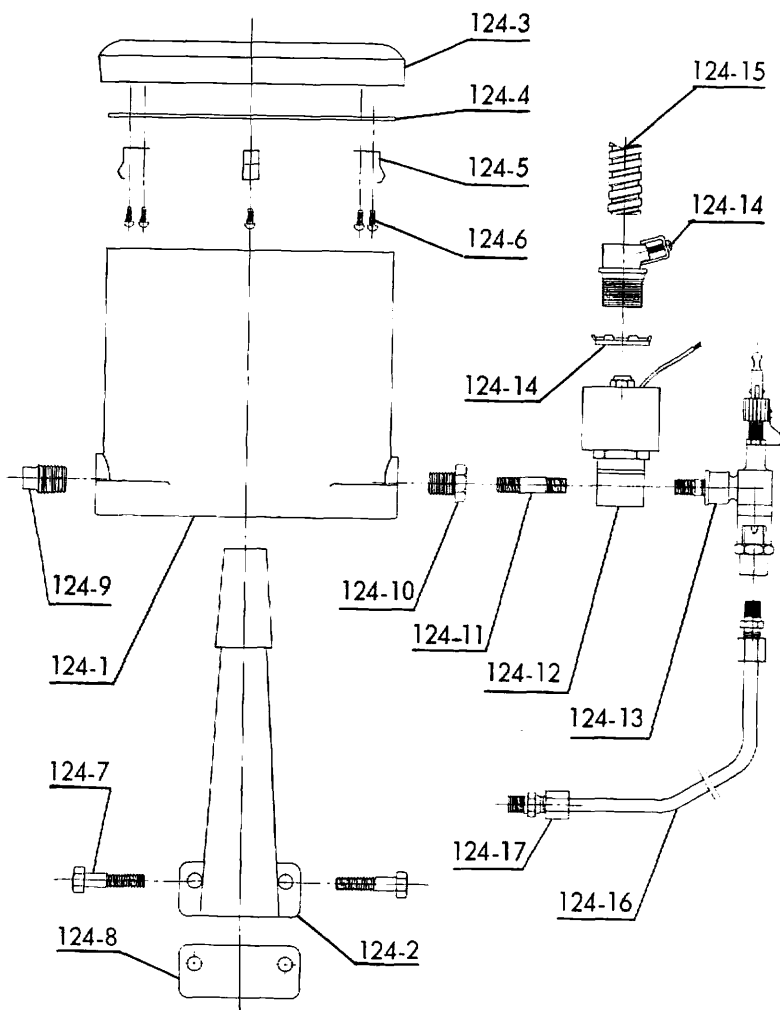

Fig. 32
Examine oil reservoir and oil feed line, making sure that they are clean. Fig. 32 shows parts involved. Attach bracket item 124-2 to driver pedestal using capscrews 124-7, placing dampener gasket 124-8 between bracket and mounting surface. Reservoir item 124-1 will slide on wedge end of bracket. Bushing 124-10 must be located on that side of reservoir most convenient to bring out oil line to tube connector. It may be necessary to interchange bushing and plug item 124-9 to accomplish this.